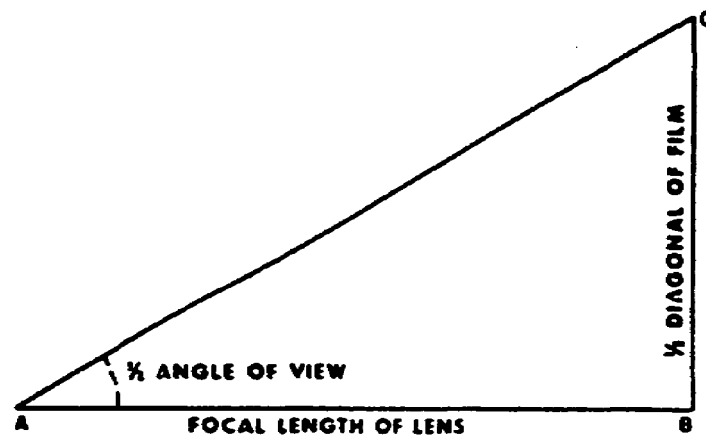

Figure 2-16. Determining angle of view.
a. To determine the angle of view, draw a line AB equal to the focal length of the lens. Construct BC perpendicular to AB and locate point C so that BC is equal to one-half of the diagonal of the negative, (fig 2-16). Multiply the size of the angle by two to determine the angle of view.